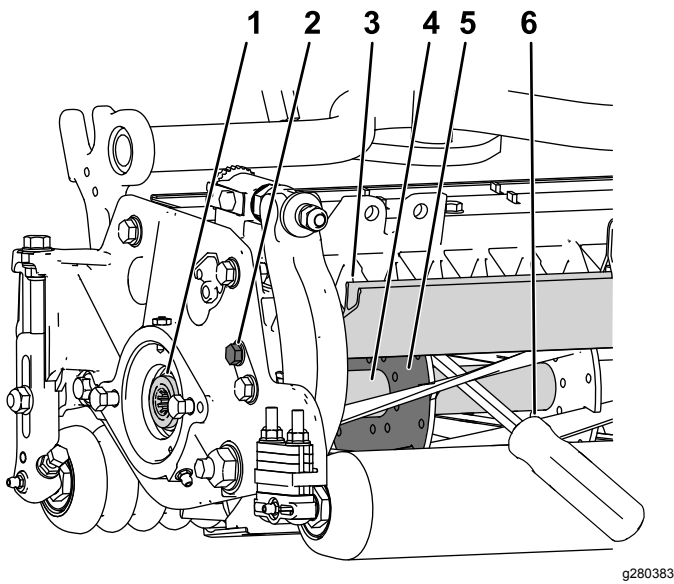

Figure 31
1. Loosen the shield-bolt on the left side of the cutting unit and raise the rear shield (Figure 31).
2. Insert a long-handled pry bar (recommended 3/8" x 12" with screwdriver handle) through the back of the cutting reel, closest to the side of the cutting unit that you will be torquing (Figure 31).
3. Place the pry bar against the weld side of the reel support plate (Figure 31).